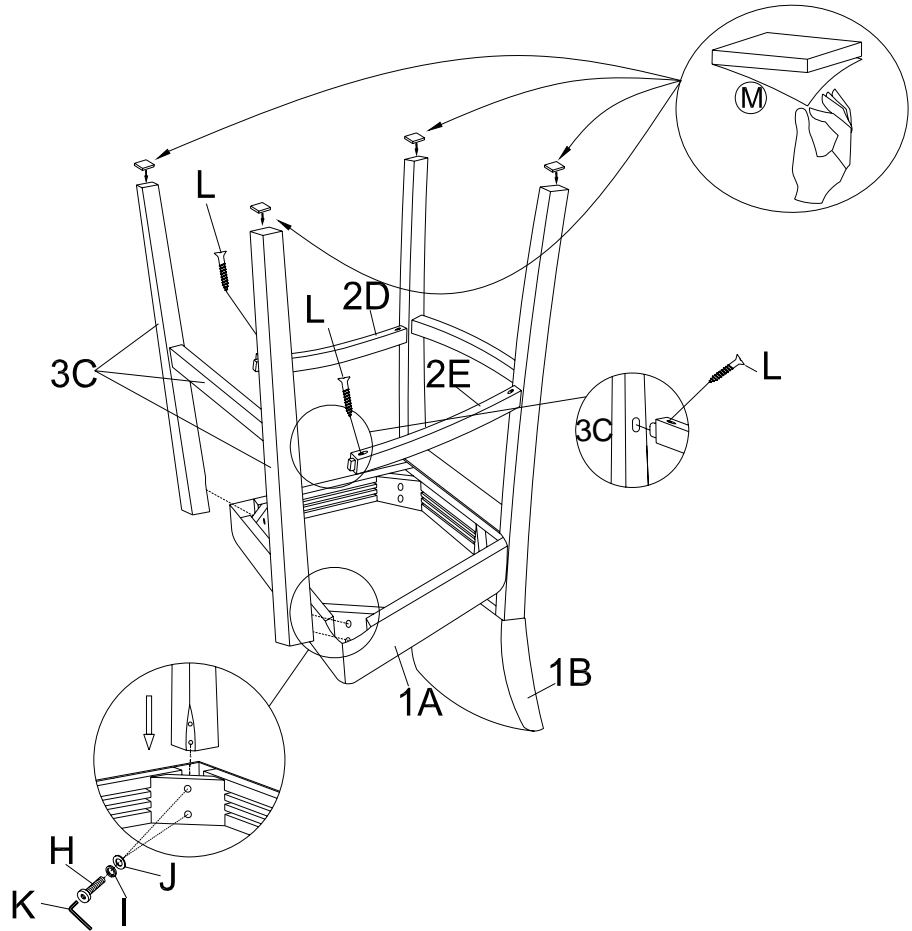

FIGURE-3B
- 3.2 TURN CHAIR AROUND WITH SEAT IN THE WORK SURFACE AS SHOWN IN FIGURE-3B.
- 3.3 CONNECT FRONT ASSEMBLY-3C TO STRETCHERS 2D AND 2E USING TWO WOOD SCREWS-G, THEN CONNECT IT TO SEAT-1A USING FOUR FRONT LEG BOLTS-H WITH FOUR SPRING WASHERS-I, AND FOUR FLAT WASHERS-J AS SHOWN IN FIGURE-3B.